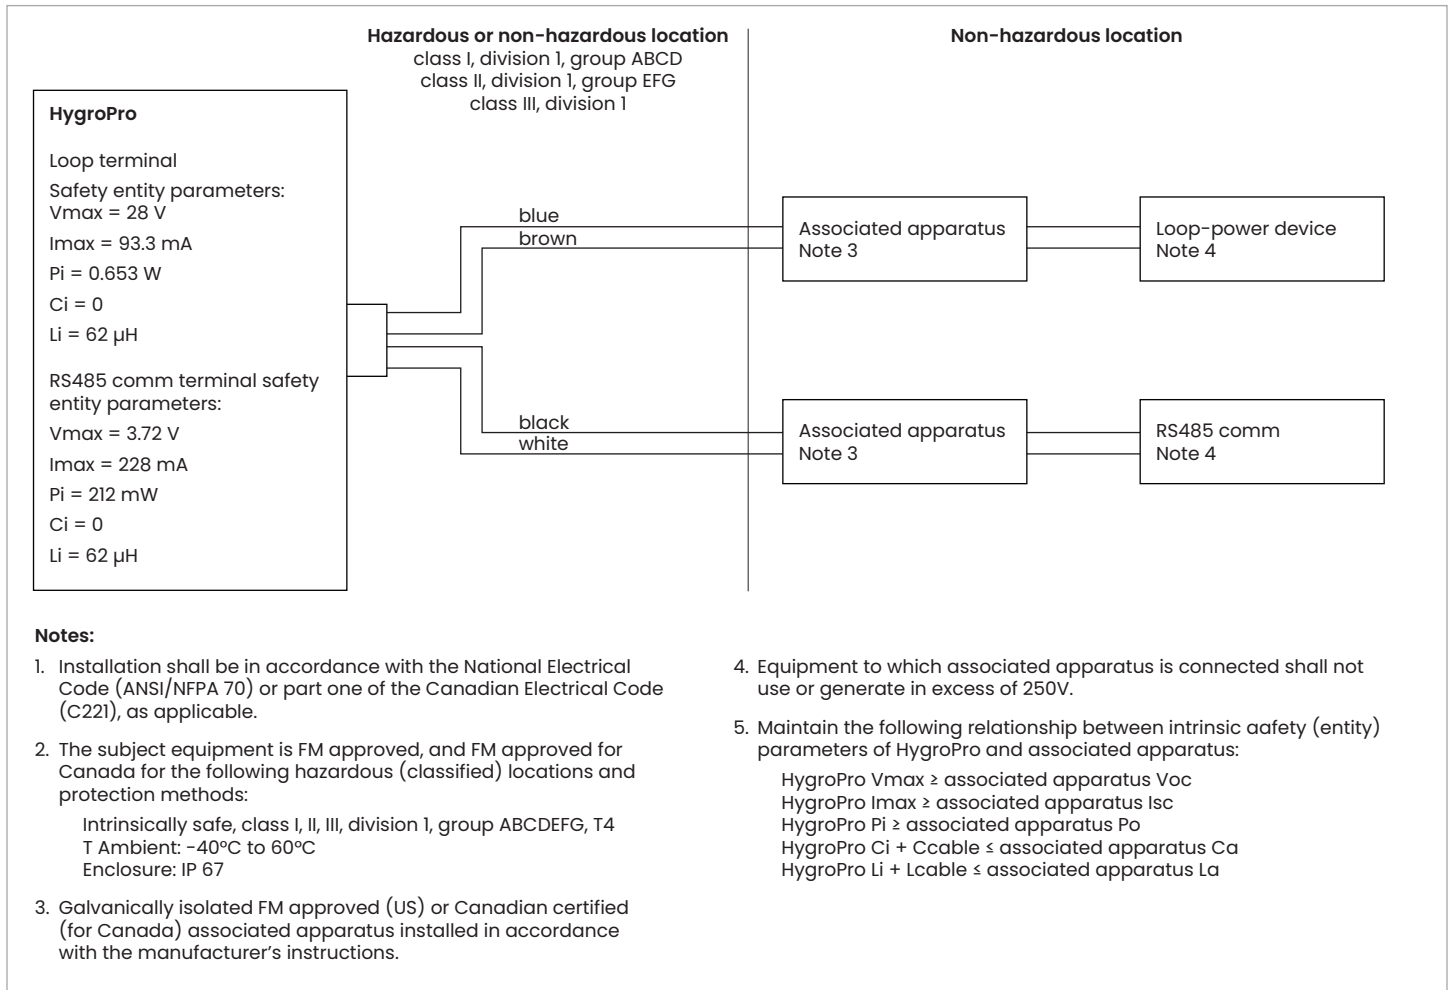

Figure 5: FM schematic (ref. dwg #752-262)
- the FM schematic drawing (see Figure 5 on page 6)